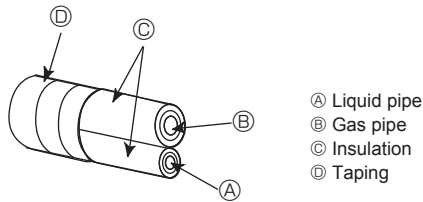
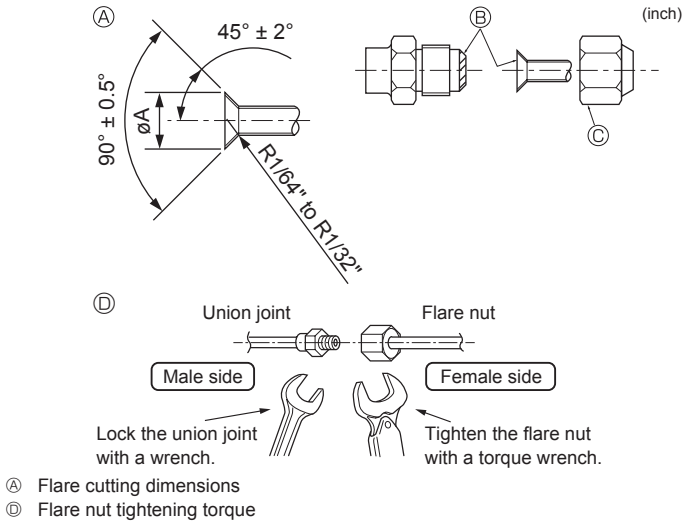

Fig. 4-5
Fig. 4-6
Ⓐ (Fig. 4-6)
4.3. Connecting pipes (Fig. 4-5) (Fig. 4-6)
- [Fig. 4-6]
- ① Pipes must be connected starting from the indoor unit. Flare nuts must be tightened with a torque wrench.
- ② Flare the liquid pipes and gas pipes and apply a thin layer of refrigeration oil (Applied on site).